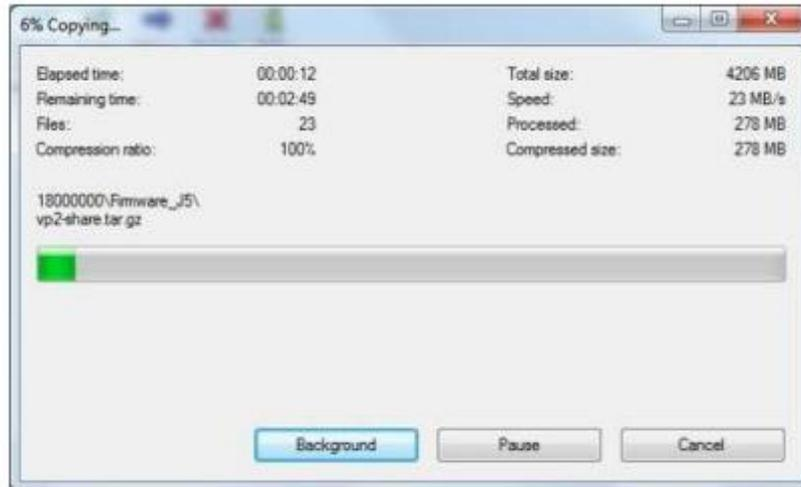

Figure 5 – Extract File to USB
8. Extract the downloaded file to the USB flash drive (Figure 5).